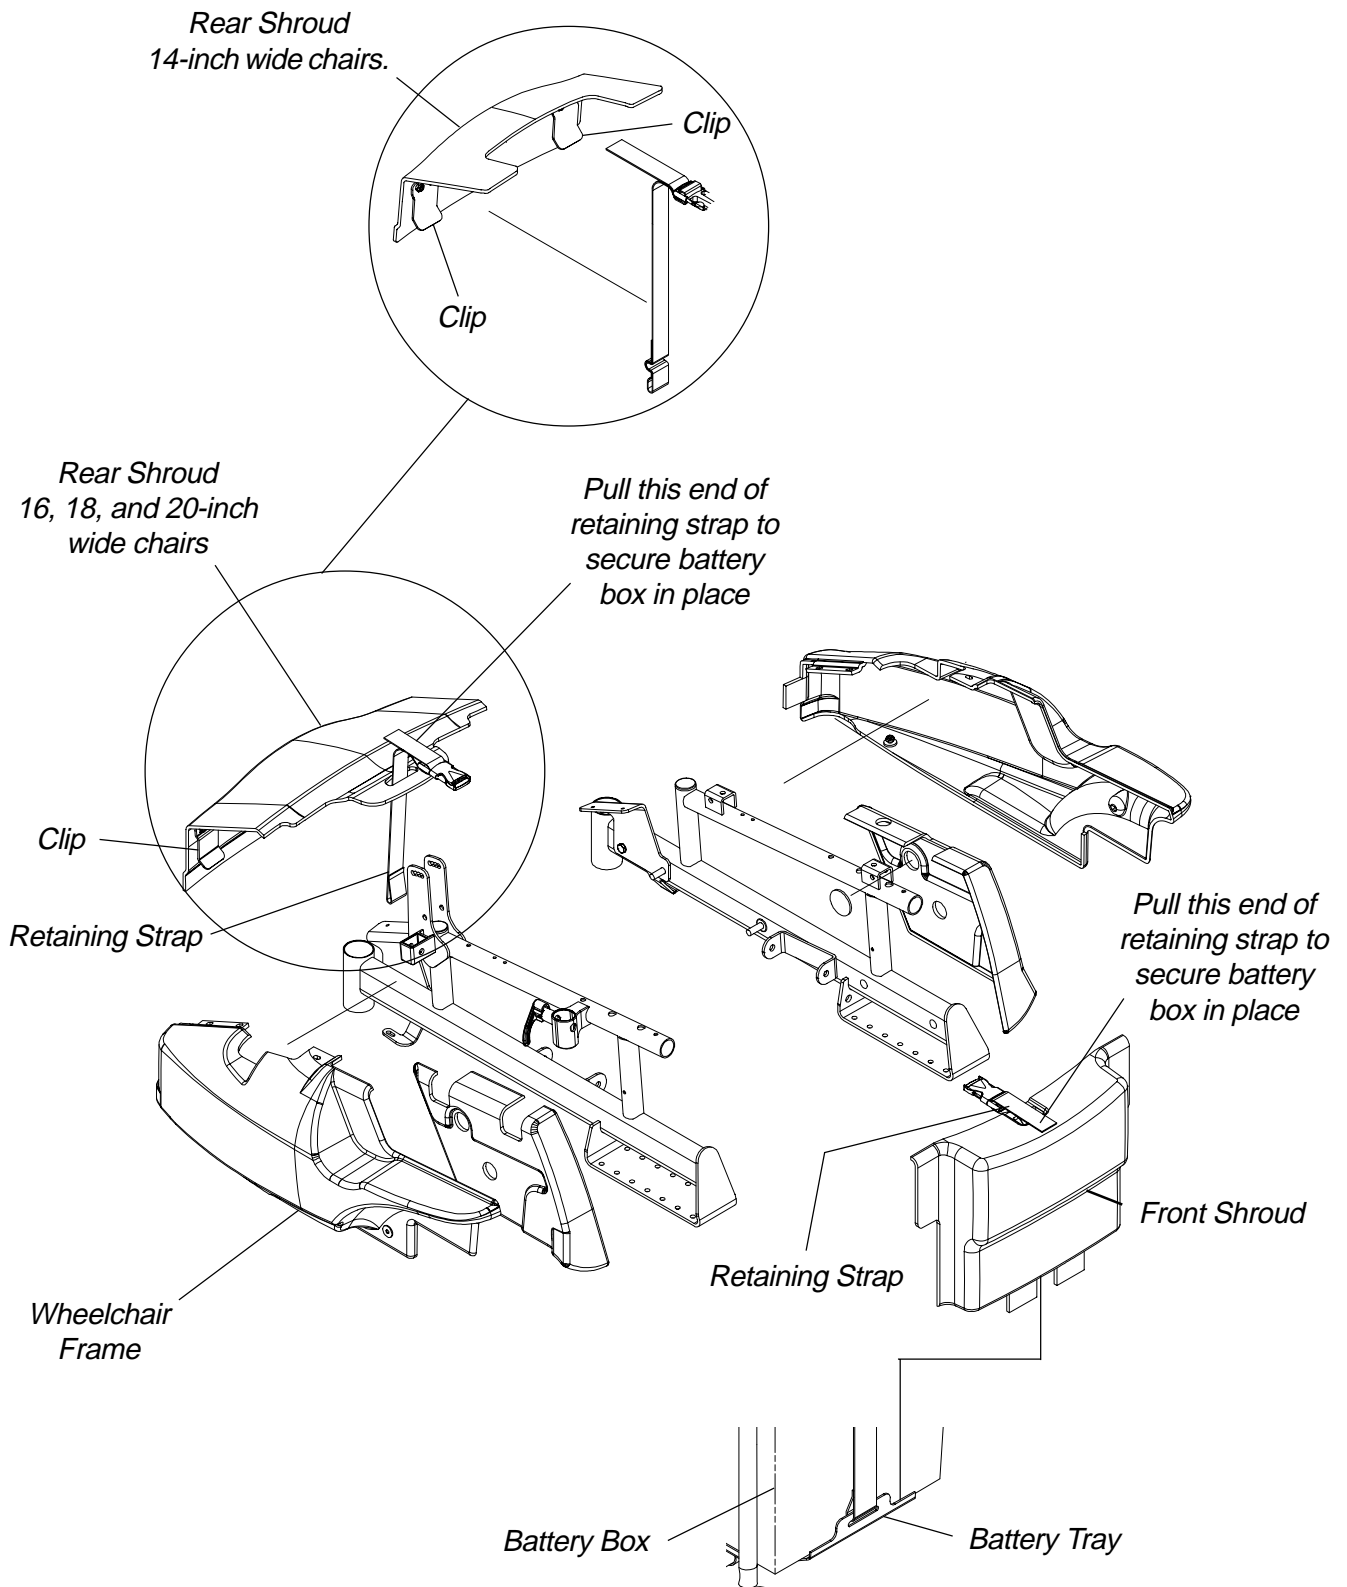

FIGURE 2 - REMOVING/INSTALLING SHROUDS - FWD WHEELCHAIRS
1. Perform one (1) of the following:
- Feed the retaining strap through the front shroud as shown in FIGURE 2.
- Press down on the rear shroud until the two (2) clips secure the rear shroud to the two (2) side shrouds.